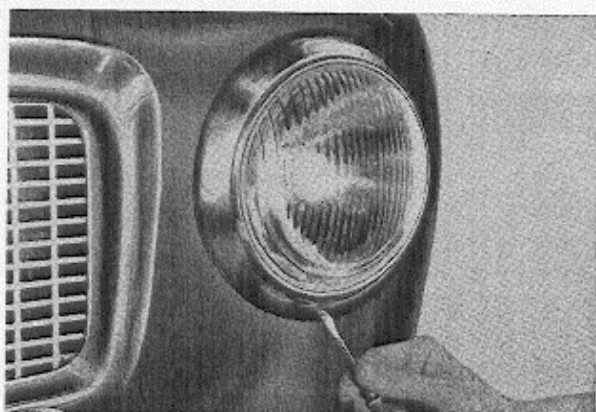

Fig. 65. Removing the headlight rim.
1. Unscrew the headlight rim screw, see Fig. 65. Lift off the rim by pulling out the lower part slightly and then lifting it upwards.